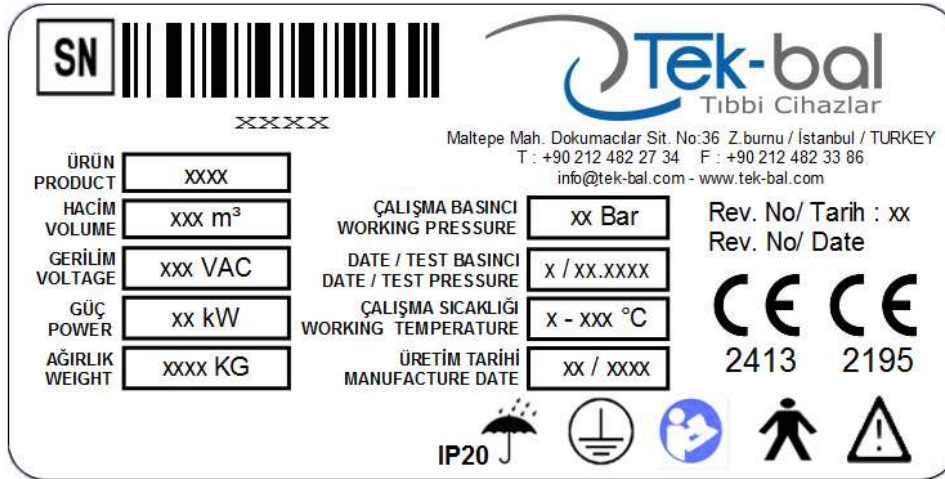

Figure 5.3.1-1
Internal capacity of the sterilization chamber where the material to be sterilized can be placed (Figure 5.3-1)
The nominal value (Figure 5.3.1-1) lists the main information and characteristics of the device. This information is used to identify the device when receiving information or when ordering spare parts.
- Check whether that the power supply voltage indicated on the rear label corresponds to the socket voltage (Figure 5.3.1-1).